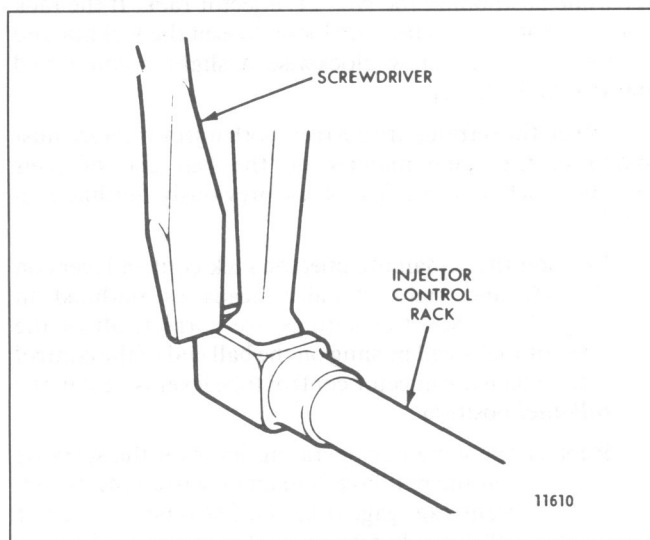

Fig. 3 - Checking Injector Rack "Spring"
7. To be sure the rack control lever is properly adjusted, press down on the injector rack with a screwdriver or finger tip (Fig. 3). A light pressure should cause the rack to rotate. The rack is sufficiently tight if the rack returns or "springs" back to its *original* position when the pressure is removed. The rack is too tight if a heavy pressure is required to rotate the rack.